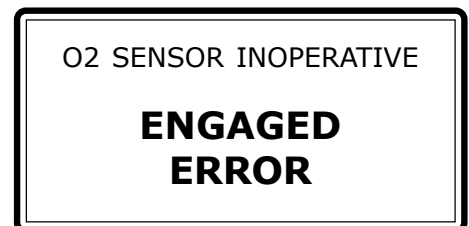

Fig. 62
- ERROR indicates that a malfunction has been read (Fig. 62).